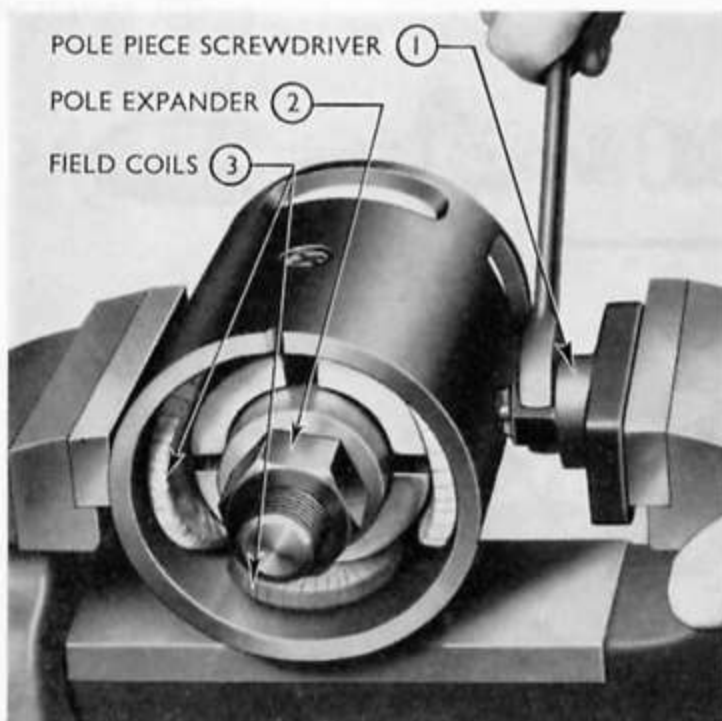

Fig. 15
3. Locate the pole piece expander (Tool No. CP.9509) in the starter yoke and tighten the nut to expand the tool against the pole pieces. Mount the starter yoke and pole piece screwdriver (Tool No. CP.9504) in a vice as shown in Fig. 15, and slacken the pole piece screws one at a time. Finally, remove the screws with a crosshead screwdriver.